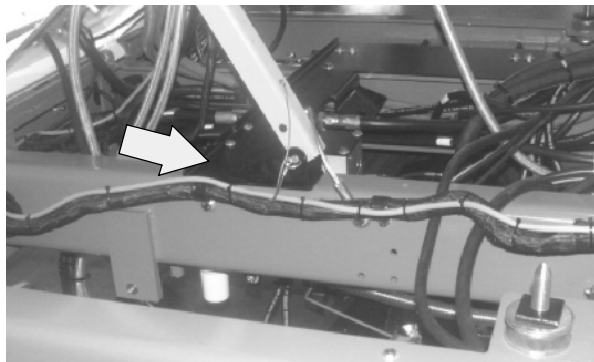

FIG. 23
37. Pull the pin from the cab prop arm, let arm drop down, install pin into the lower hole on the arm and frame bracket. Refer to Fig. 23.